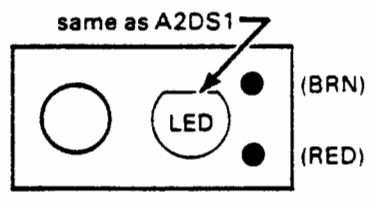

Figure 7-5. Early EOT PCA Component Location Diagram
- 4. On some early units, the positions of the phototransistor and LED associated with the End-Of-Tape circuit are interchanged. The component location diagrams for the EOT PCA and the Drive PCA for these early units are shown in figures 7-5 and 7-6 respectively.